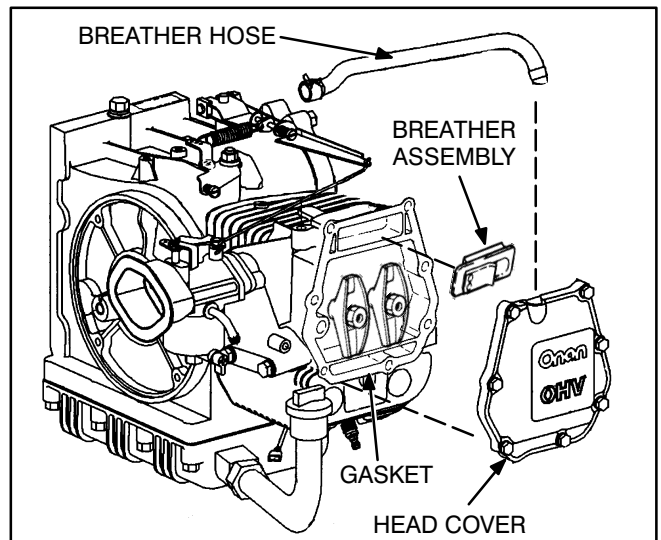

FIGURE 9-3. HEAD COVER
1. Remove the head cover mounting bolts and pull off the head cover (Figure 9-3).